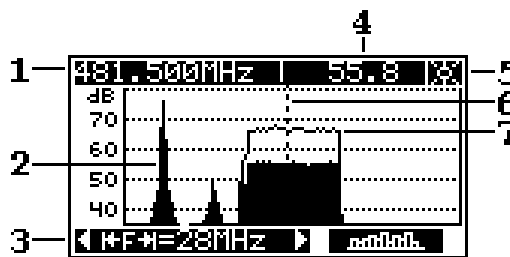

Figure 4.5.6
**SPECTRUM** measurement mode can be accessed from **SCAN** mode by pressing the **F3** key. In this mode you will see the spectrum of the input signal in tunable scanning range. The screen view is shown in Figure 4.5.6:
You can change the frequency scanning range by pressing the **F1** or **F2** keys. The available values are: **14 MHz**, **28 MHz**, **55 MHz** and **110 MHz**. The current scanning range value is shown on the screen in position 3 (see Figure 4.5.6).